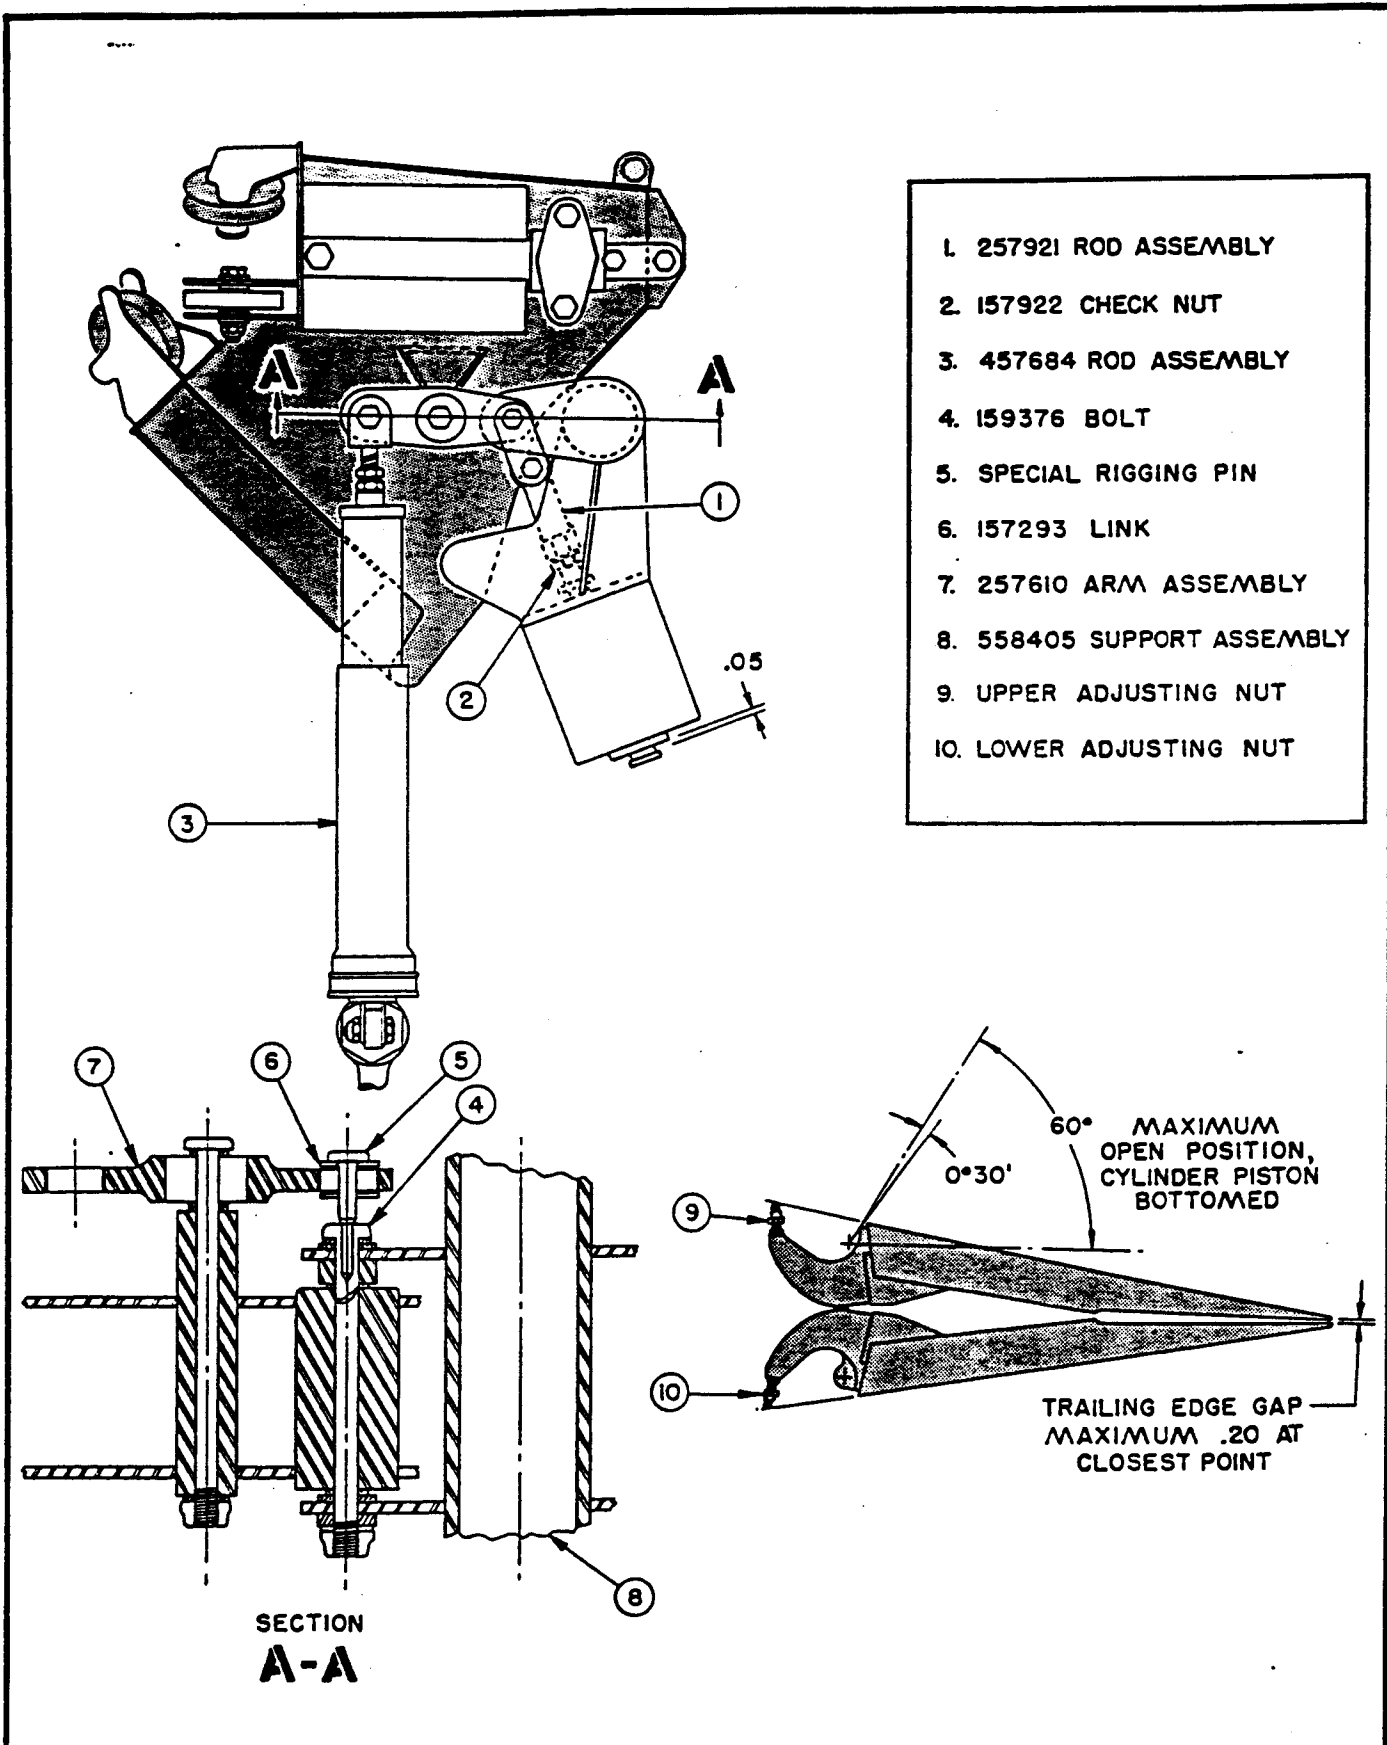

Figure 20. Rudder Rigging Positions
2. Move the servo valve operating bellcranks to the "rudder closed" position and install a rigging pin through each bellcrank and support. (See figure 20.)
1. Remove the rod assembly by disconnecting it from the rudder horn and from the arm at each of the inboard and outboard mechanisms. (See figure 20.)
2. Remove the bolt connecting the arm to the link. (See figure 20, view A-A.)
3. Install a special rigging pin through the arm, link, and into the head of the bolt holding the bellcrank to the support. The pin may be made out of an oversize bolt, turned to size. (See figure 20, view A-A.)
6. Adjust as necessary and connect the rod assemblies to the rudder horn fittings. (See reference 3, figure 20.)